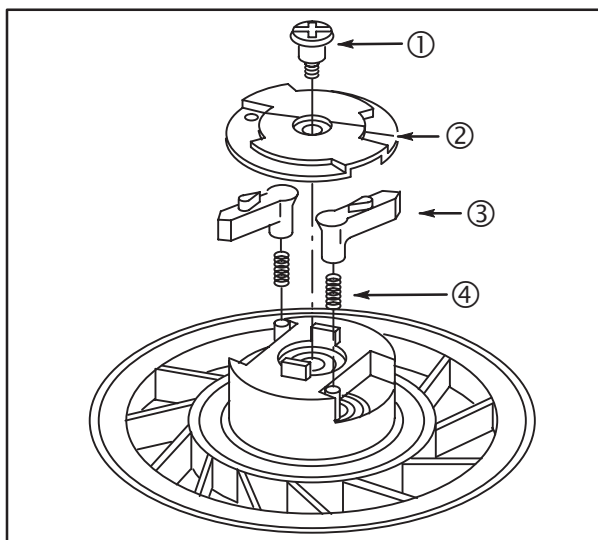

Fig. 56
2. Remove shoulder screw (1) and retainer (2), Fig. 56.
3. Lift out dogs (3) and dog springs (4).